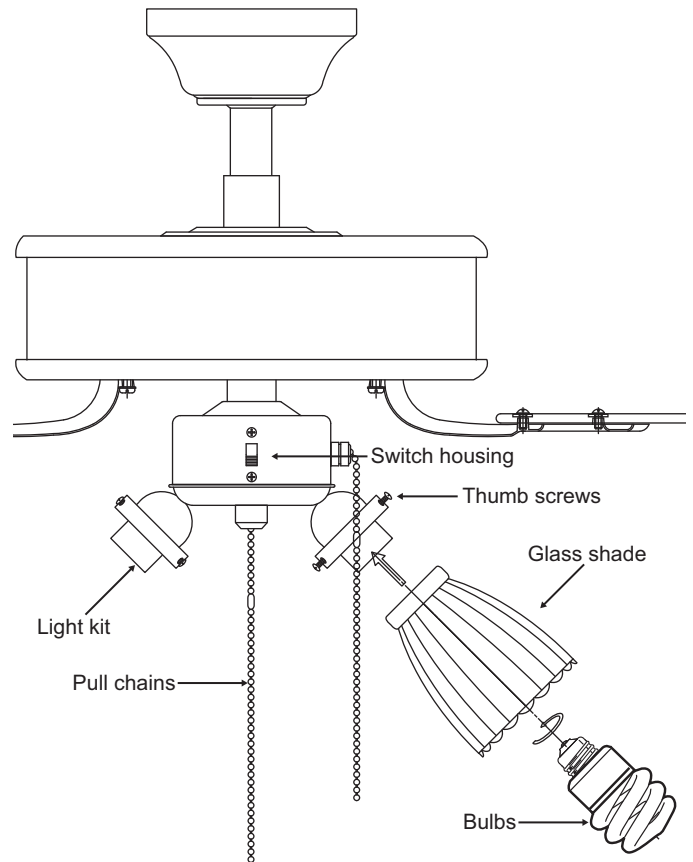

Figure 19
1. Mount the glass shades to the light fixture by unscrewing partway the thumb screws on the glass holders, inserting the glass, then gently tightening the thumb screws by hand evenly to the glass. **DO NOT OVER TIGHTEN.** (Fig. 19)
2. Install 3 x 13W Compact fluorescent bulbs. (provided) (Fig. 19)
3. Insert the 2 pull chain through the eyelet in the shade and cap. (Fig. 19)